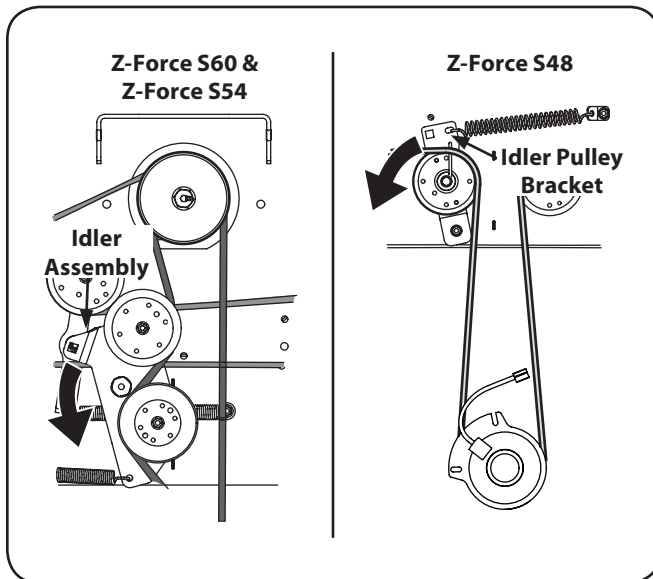

Figure 7-4
3. Using a 1/2" drive in the idler pulley bracket, turn the wrench towards the back of the tractor and slide the belt off the PTO pulley. See Figure 7-4.